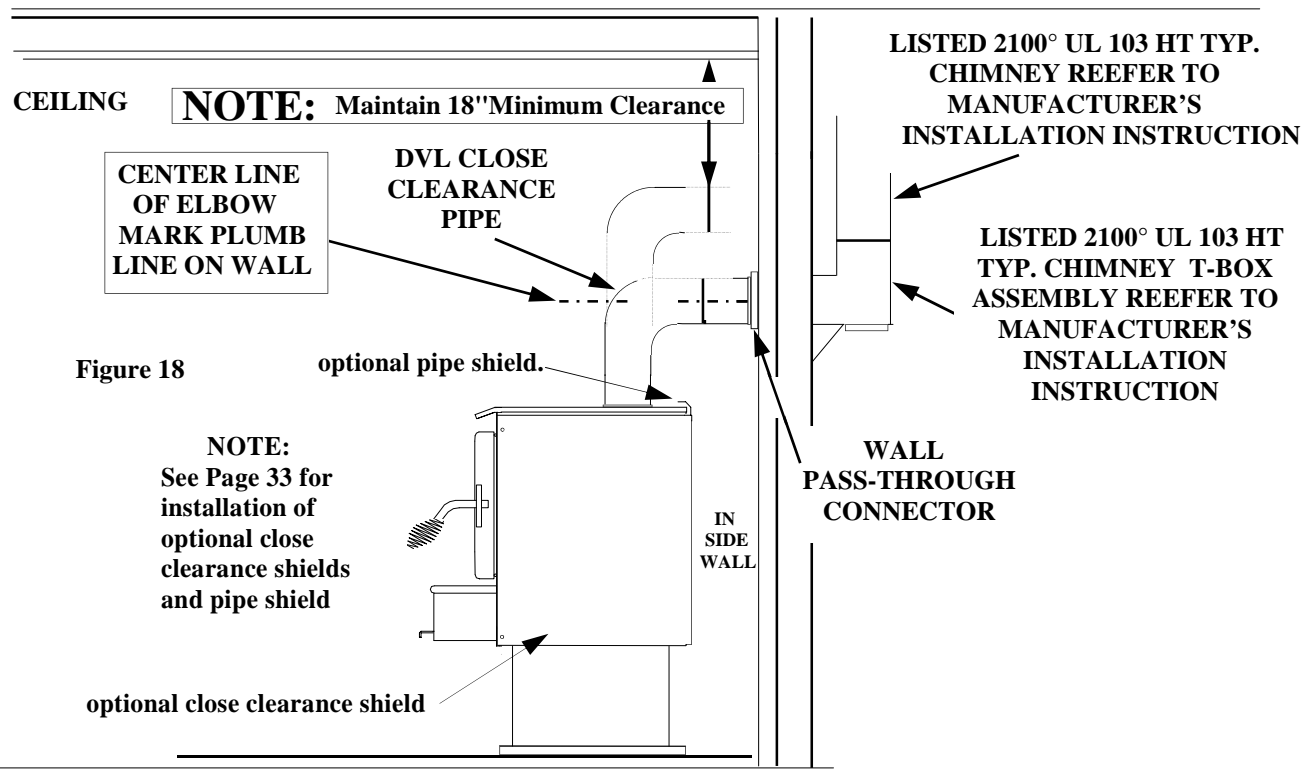

Figure 18
(See Page 26, Figure 18).
3. Measure up so there will be at least 1/4" rise per foot of horizontal connector pipe, maintaining clearances to ceiling as noted in (Page 26, Figure 18). This will give you center of hole for chimney penetration.
5. Connect the DVL close clearance pipe to tee-box per manufacturer's instructions. DVL close clearance pipe is to be connected with (3) sheet metal screws or rivets to connector collar on heater.(See Page 26, Figure 18).